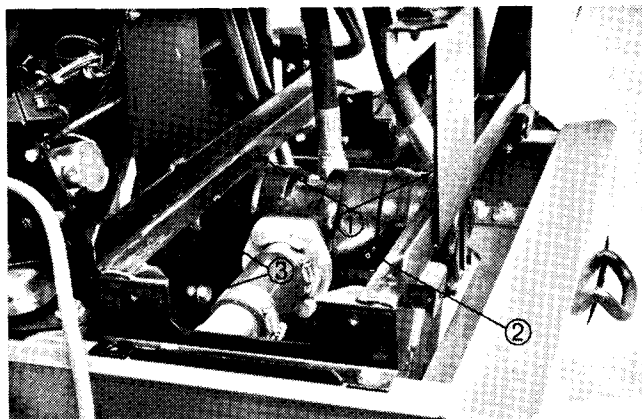

Figure 34
1. PTO solenoid (3) 4. Capscrew (6)
3. Battery (2)
12. Push battery tray approximately half way and align tangs on battery tray with notches on rail, then lift up rear of battery tray and pull completely out of machine (Fig. 34).
13. Remove four (4) capscrews from PTO pump and pull PTO pump shaft out of drive coupling (Fig. 34). Leave hydraulic lines attached to pump.